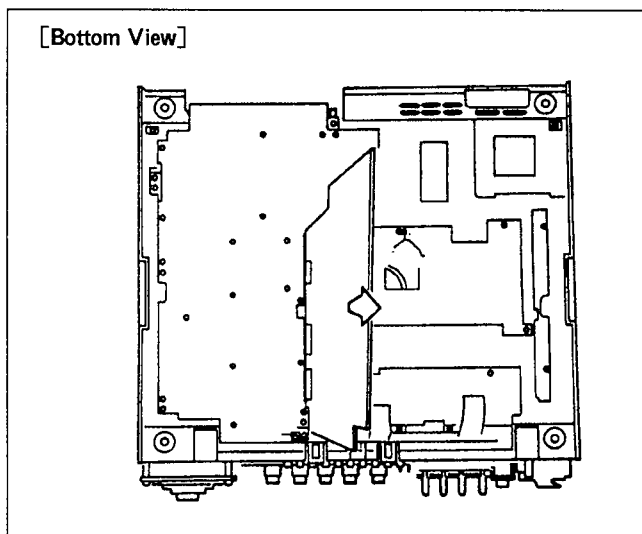

Figure D29
5. Carefully lift the Servo & System Control C.B.A. off the unit in the direction indicated by arrow (with taking care for the connection to the Mother C.B.A.). (Figure D29)